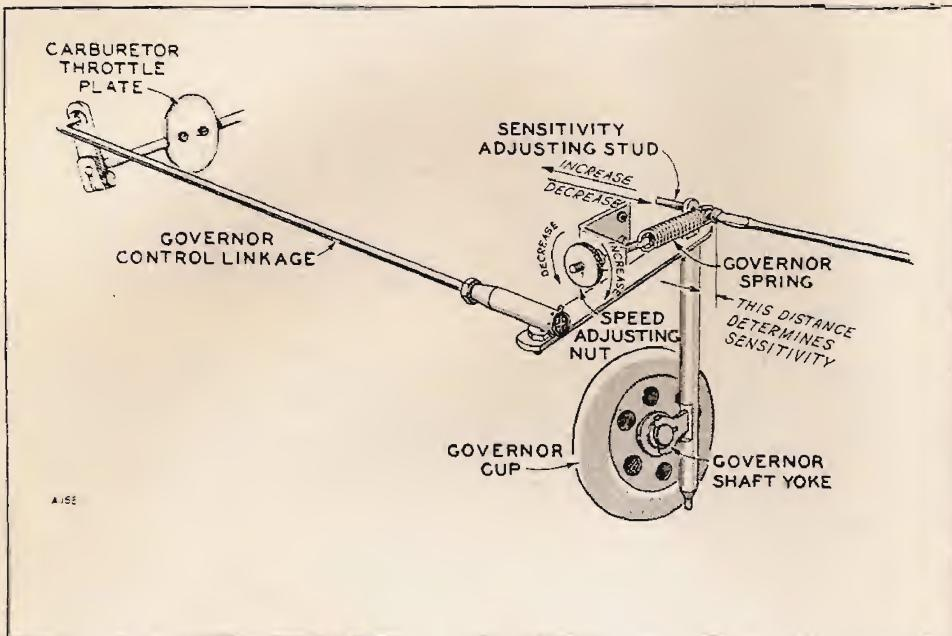

Fig. 19 Governor Adjustments
- With the plant operating at no load, turn the speed adjusting nut, Fig. 19, to obtain a frequency reading of between 60 and 63 cycles for a 60 cycle plant (50 to 53 cycles for a 50 cycle plant). The voltage should be within the limits shown in the table III according to the rated voltage shown on the plant nameplate.
2. Connect a full electrical load to the generator. The governor should act smoothly and quickly to keep the voltage and frequency within the limits shown in the table. However, there should be not more than a spread of 3 cycles between the no load frequency and the full load frequency. For example, if the frequency was 62 cycles at no load, then the full load frequency should be not less than 59 cycles. If the cycle spread is more than 3 cycles, turn the sensitivity adjustment screw, Fig. 19, in (clockwise) a half turn. This will, in turn, necessitate a slight compensating speed nut adjustment. Repeat the process until the cycle spread is within 3 cycles, and voltage is within the limits shown in the table.